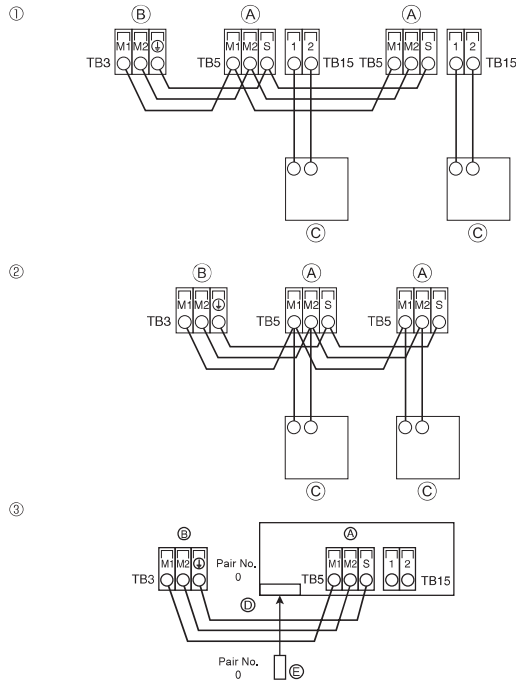
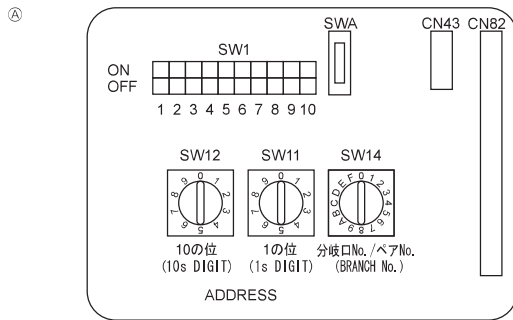

Fig. 6-3
Fig. 6-4
6.4. Connecting remote controller, indoor and outdoor transmission cables (Fig. 6-3)
① MA Remote controller
② M-NET Remote controller
③ Wireless remote controller
6.5. Setting addresses (Fig. 6-4)